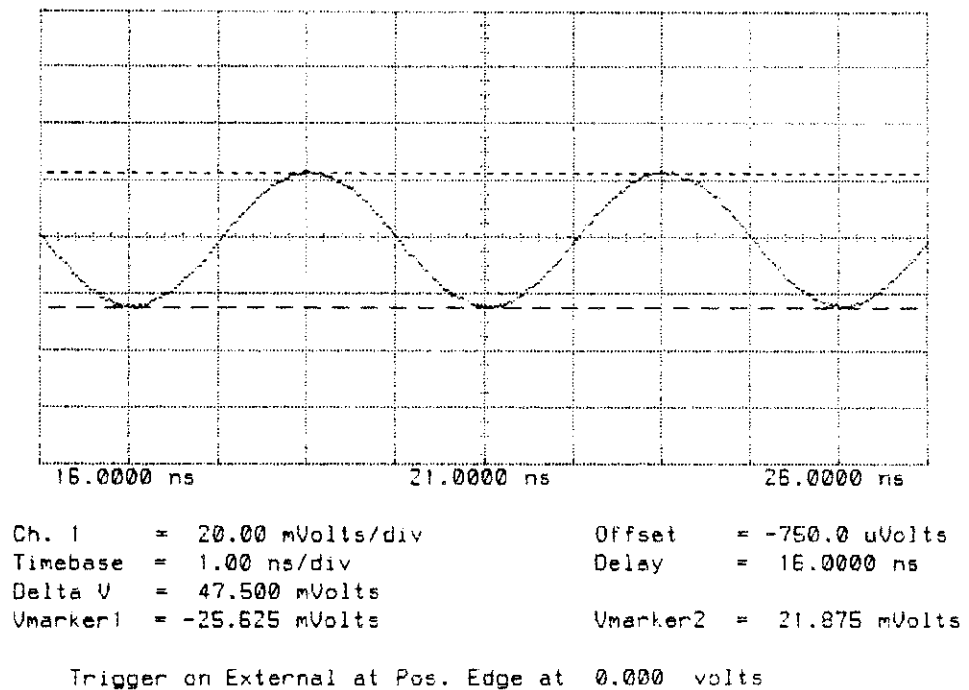

Figure 4-5. High Bandwidth Adjustment with Markers
13. Adjust the HB1 (R161) until the signal amplitude overlays the 25% and 75% markers. Refer to figure 4-5. Adjustment HB1 is the high bandwidth adjustment for channel 1 only.